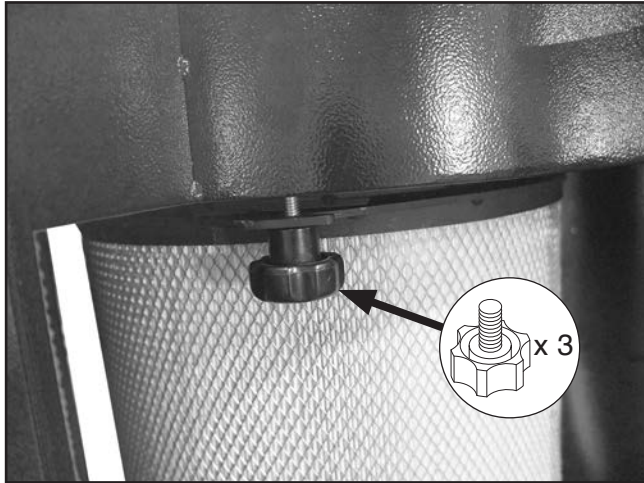

Figure 79. Location of canister filter knob bolts.
7. Loosen (3) $\frac{3}{8}$ "-16 x 2" knob bolts that secure canister filter assembly to machine body, as shown in **Figure 79**.